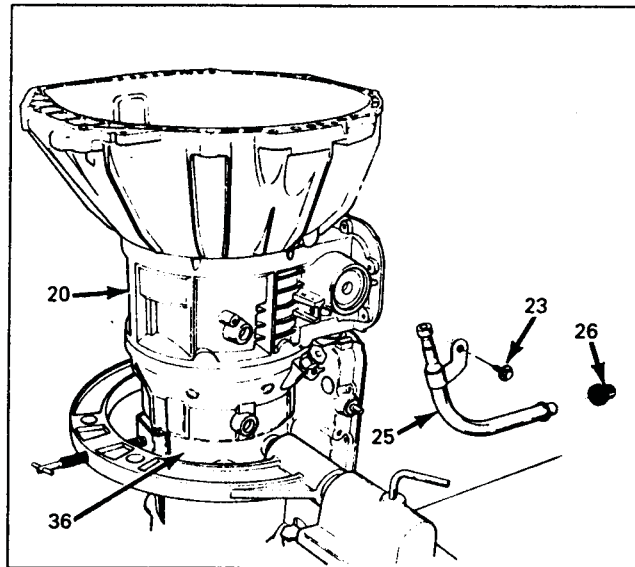

Figure 33
1. Rotate the transmission 180 degrees to a vertical position with the converter housing up (See Figure 33).
2. Using a 10mm socket, remove bolt securing the filler tube to the adapter case as shown in Figure 33.